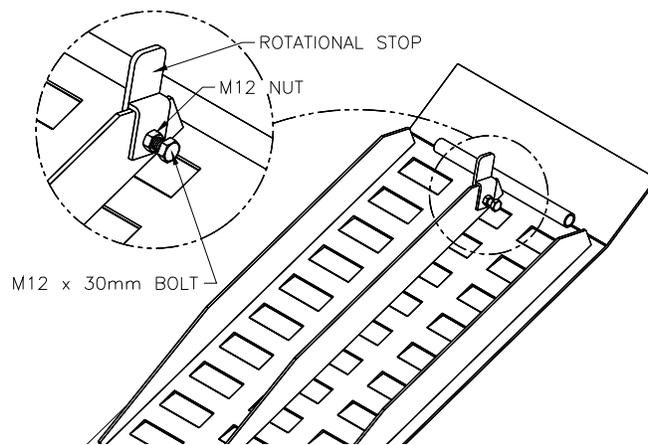

Fig 32 – Rotational Stop
- 4) Turn the ramp over and install the ramp rotation stop as shown in **Fig 32**. Use the provided M12 x 30mm Lg. bolt and M12 nut.
- 5) Place the stop on the gusset as shown in **Fig 32**, assembly the nut onto the bolt prior to installing the bolt into the stop. Torque the bolt against the ramp gusset and lock into place with the nut.